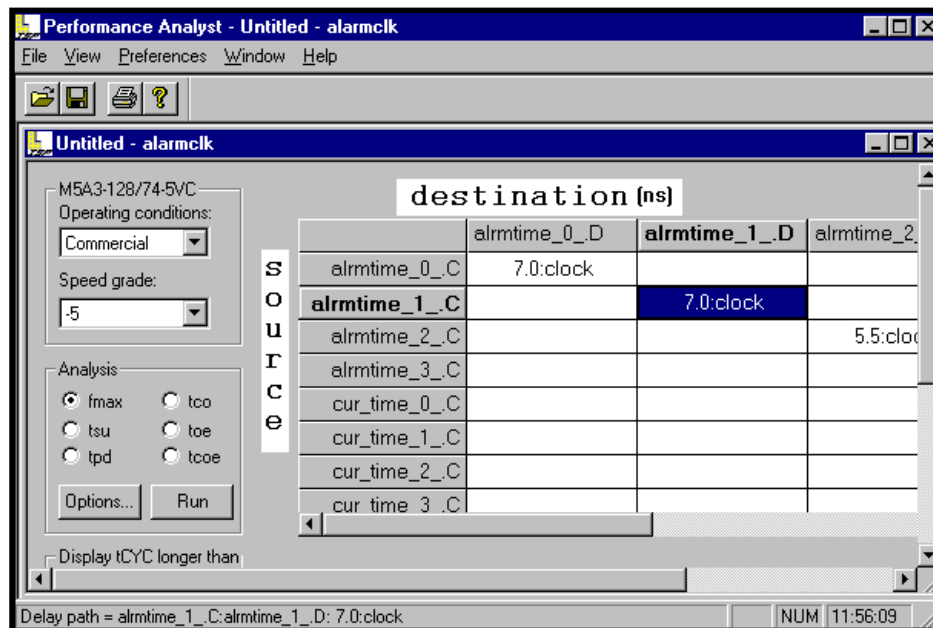

Figure 5-15. Delay Paths Table
1. In the Analysis field, click **Run** to start timing analysis. The Performance Analyst calculates the delay paths according to the options you have chosen and displays them in the table (Figure 5-15).